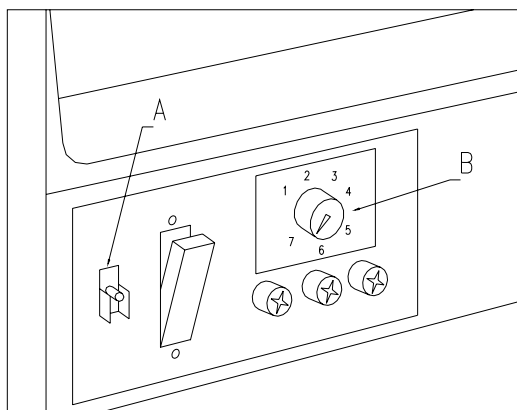

FIG. 3
7.1 DOOR MICROSWITCH (FIG. 3)
On the left low reinforcement there is a microswitch ref.A fig.3 protected against accidental operations that can be driven only through the special spanner in equipment. The microswitch, which complies with the regulations, is used to disconnect all electrical parts of the machine when the door is opened. If necessary it he feeding can be restored inserting the special key. "REMOVE THE KEY FROM THE ELECTRIC PANEL BEFORE CLOSING THE DOOR".
When the microswitch of the door is closed (**FIG. 3 ref. A**) the machine will start a self-configuration procedure that consist in checking the No. of spirals in every tray. In this phase the message **TEST 12** will appear for some seconds on the display and after this the machine can be put into service.